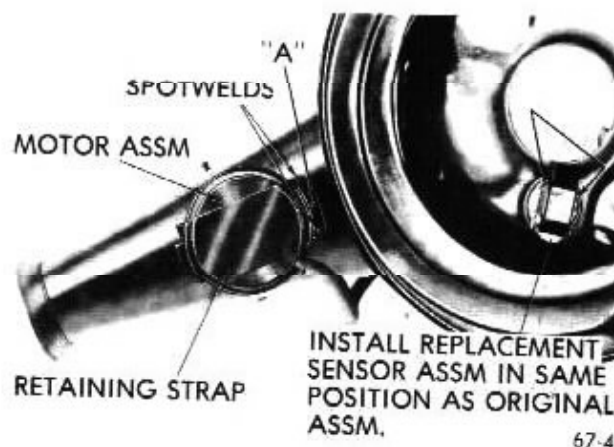

Figure 67-4 - Replacing Vacuum Motor Assembly
3. Remove vacuum motor retainer strap. See Figure 67-4.
5. Drill a 7/64" hole in snorkel tube at point "A" as shown in Figure 67-4.
5. Install sensor retaining clip. Meanwhile supporting sensor at "B" around the outside rim to prevent damage to the temperature sensing spring. See Figure 67-4.